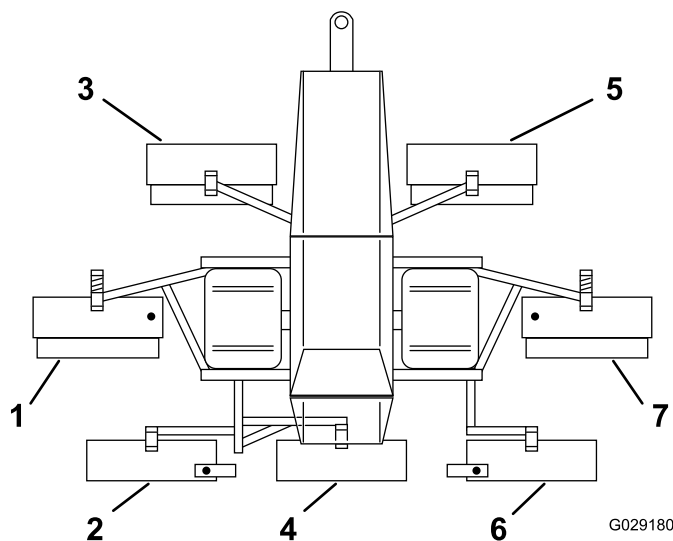

Figure 8
5. Lay out the cutting units around the machine in the correct positions as shown in Figure 8.